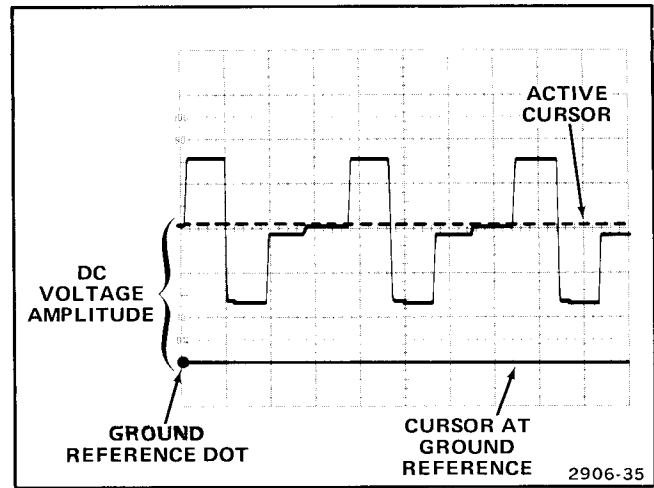

Figure 18. Instantaneous dc voltage, cursor method.
8. Use the **CURSOR** control knob to move the dashed **VOLTS** cursor to the point of interest on the waveform (see Figure 18). Read the instantaneous dc voltage from the four-digit LED display. If the dashed cursor is above the